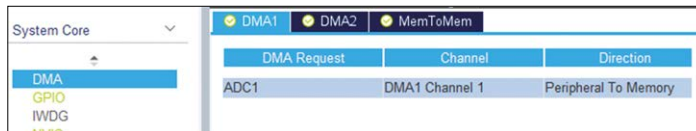

Figure 8.18: Selecting ADC1 in DMA.
- Click **DMA** under tab **System Core** and select **ADC1** as shown in Figure 8.18.